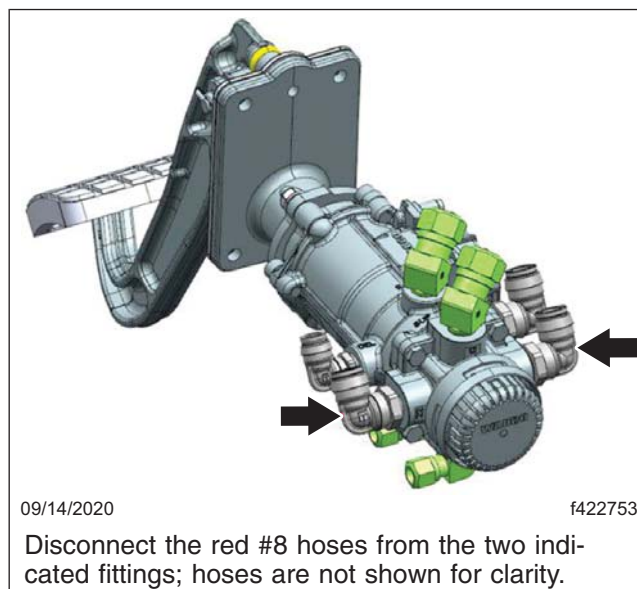

Fig. 9, Disconnecting the Red #8 Hoses
12. At the foot valve, disconnect the red #8 hoses from the two indicated fittings. Replace both 23-14396-013 fittings with 23-14396-006 fittings. See **Fig. 9**.